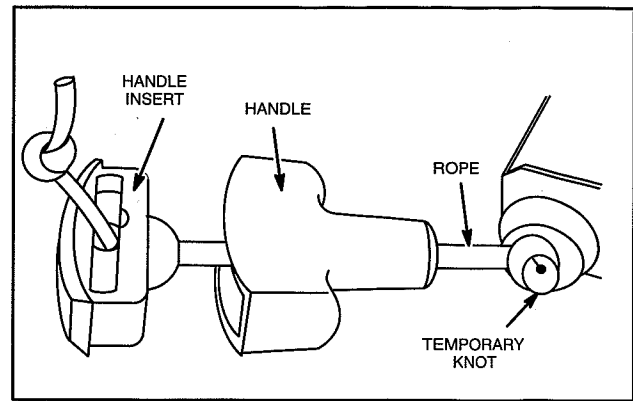

Fig. 3 – Remove Handle And Insert
3. Untie knot and remove insert and handle from rope, Fig. 3.